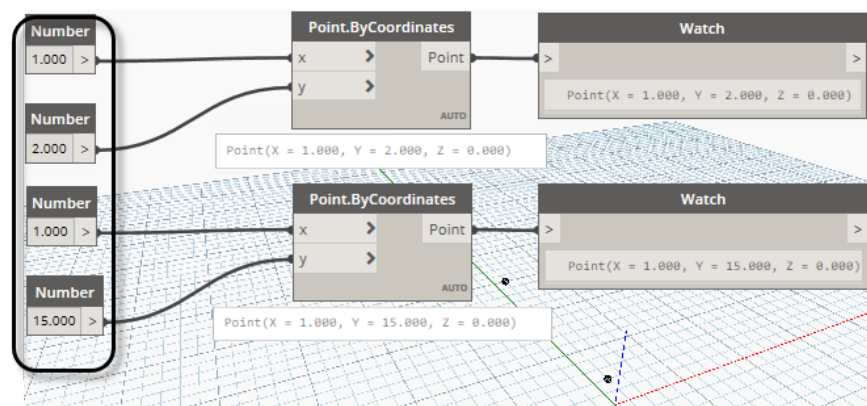

Figure 18
15. Change the number values of the copied point to move it (see Figure 18).